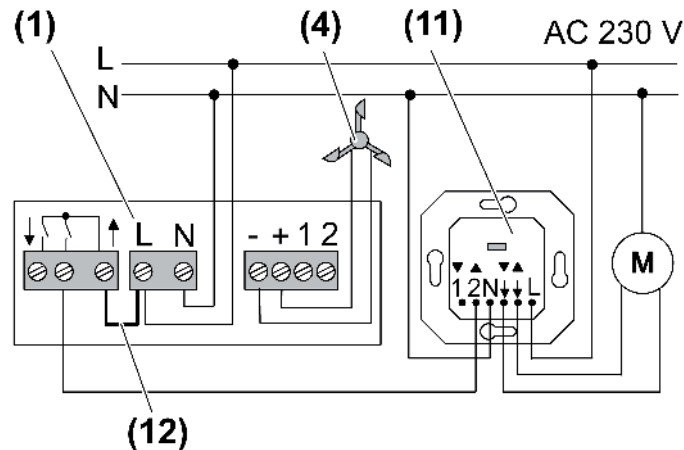

Figure 4: Connection diagram for connecting the evaluation unit to the Venetian blind controller
- Fasten the device using two screws (10).
- Insert the cables into the connection housing and connect the according to the connection diagram (Figure 4).
- i** The distributor terminal (5) serves to connect the protective conductor.